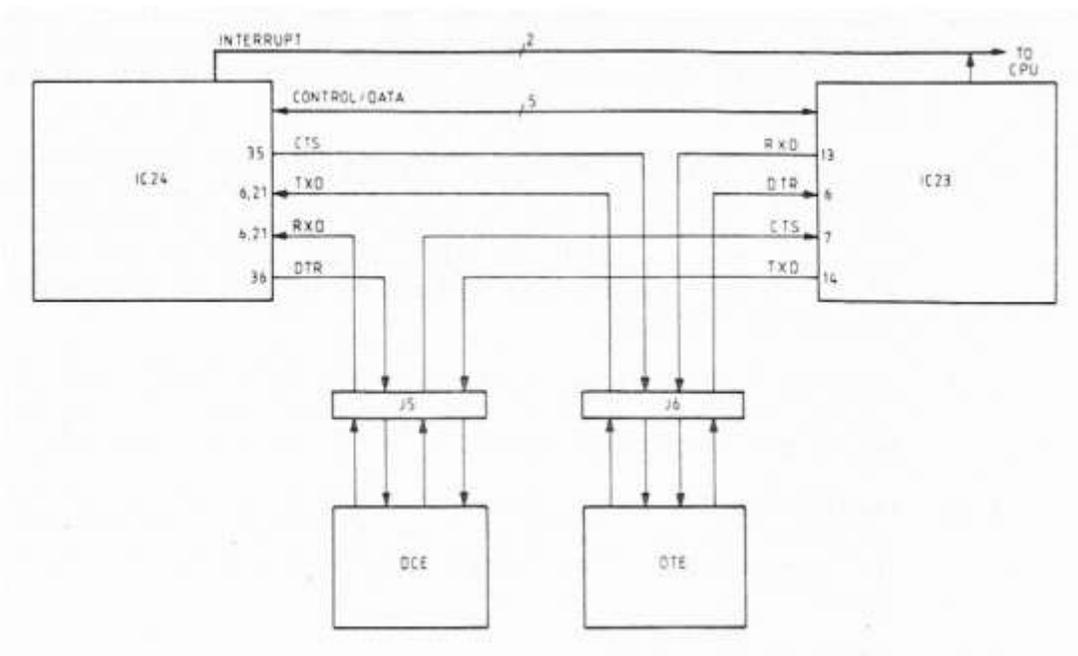

FIGURE 1.1 RS232 LINK
**4.7 J5 and J6** are two RS232 connectors. J6 is connected so that the device connected to it may act as the Data Terminal Equipment (DTE) which originates the Data Terminal Ready (DTR) signal. J5 connects to the Data Communications Equipment (DCE) i.e. the local QL assumes DTE status. Figure 1.1 illustrates this schematically.